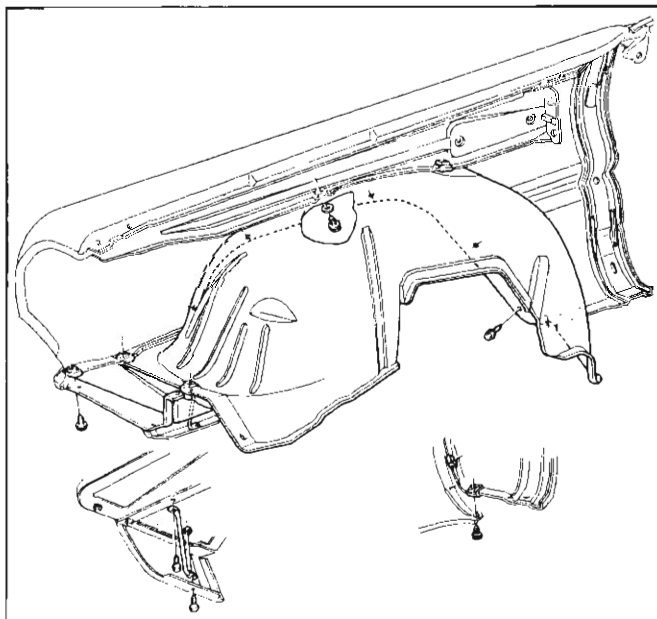

Fig. 18c—Fender-to-Fender Skirt Attachment
4. Referring to Figure 18c: Remove screws retaining fender to skirt.